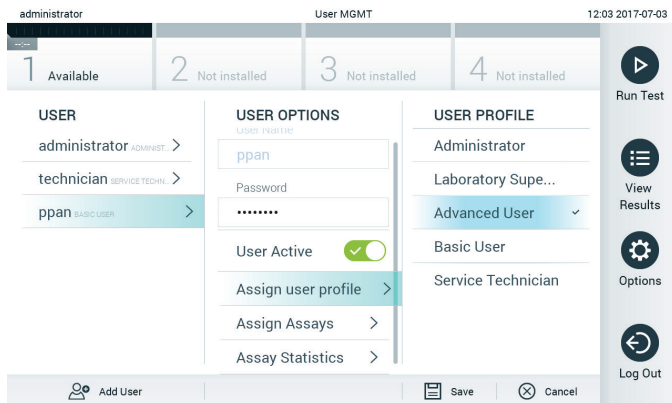

Figure 49. Assigning user profiles to users.
- **Assign User Profile:** Allows assigning a different user profile for that user (e.g., Administrator, Laboratory Supervisor, Advanced User, Basic User). Select the appropriate user profile from the list on the right of the content area (Figure 49).